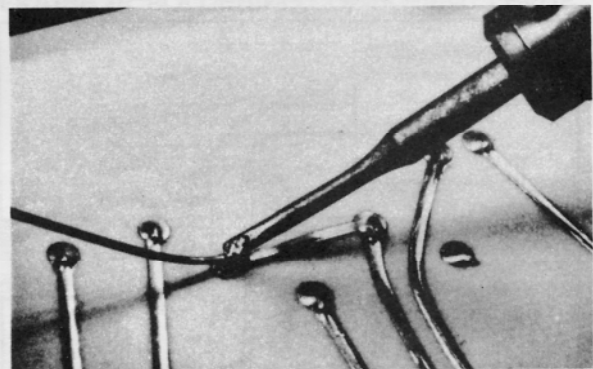

FIGURE 15. SOLDERING FUNNELET TO TRACK
STEP 13—After setting Funnelet/Eyelet, check alignment and overlap of the TRAK-PAD Track with existing conductor (see Figure 15). (*If alignment is necessary, insert Pro/Vise blade into Funnelet/Eyelet barrel and turn for fine alignment. This avoids bending of Track*). Solder Funnelet/Eyelet to Pad or Land. (**NOTE:** PACE Fused Eyeletting Systems provide the means for “Flat Setting” and “Hot Fusing” pre-tinned Eyelets to create the most reliable interface repair for damaged Plated Thru-Holes (PTH) on double-sided boards. (See Equipment and Training).